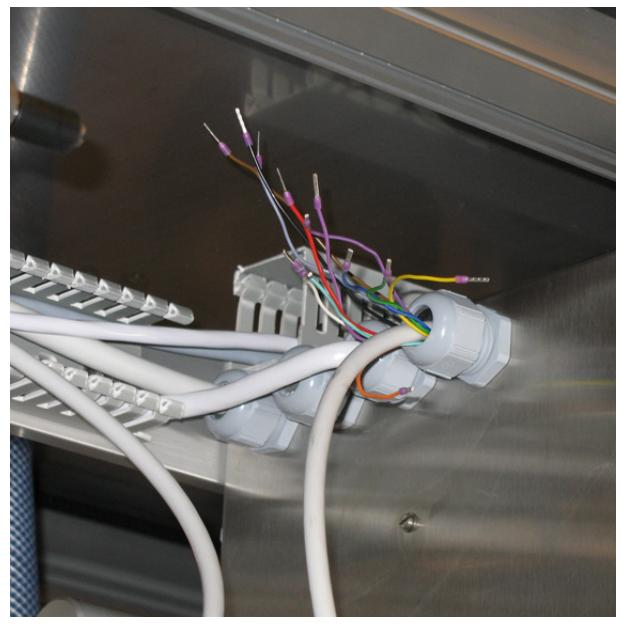

Fig. 18. Lead-through bushing, solenoid valves.
2. Open the bushing and the cable conduits in the electronics cabinet. Insert the cables through the bushing (Fig. 18) and conduits to board IO2 (Fig. 19), then connect them according to Table 1: